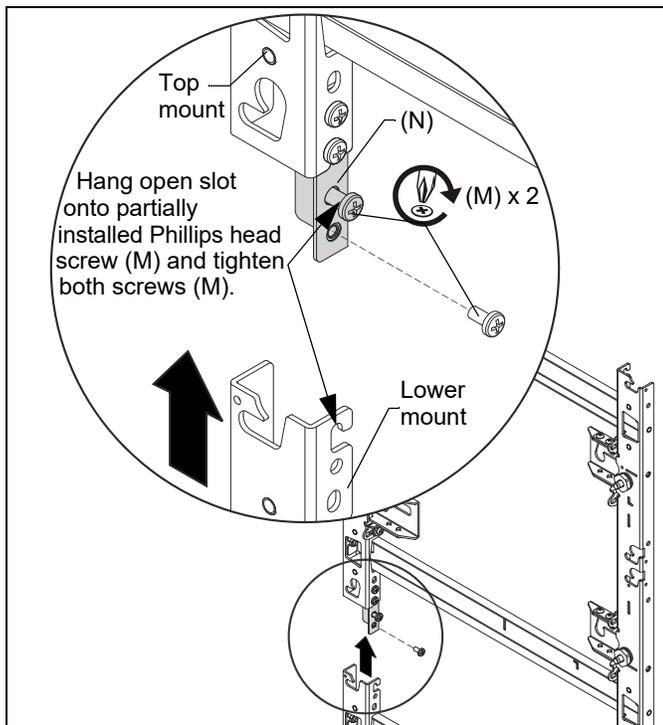

Figure 5
NOTE: When connecting a mount to the bottom of an **installed** mount, the lower mount may be hung by its open slot on the partially installed Phillips head screw (M) before tightening the connection. (See Figure 5)